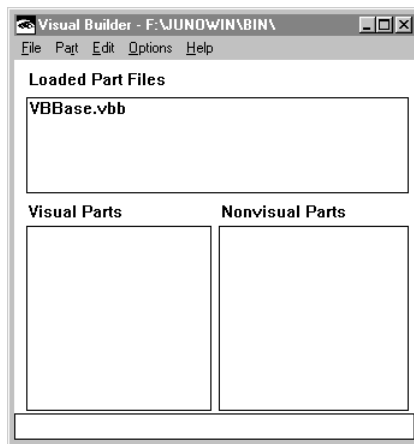

Figure 2. Visual Builder Window
3. Double-click on the **Visual Builder** icon. Visual Builder displays the Visual Builder window, as shown in Figure 2.